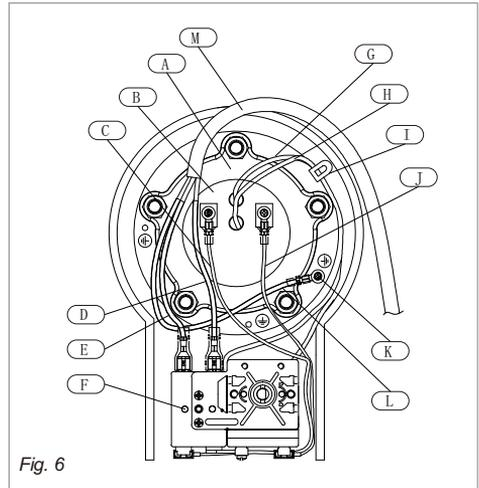

Fig. 6
- Take out the power cord L from the plastic part. (Fig. 6)
- Use a cross screwdriver to unscrew the 3-in-1 cross screw J on the heating element terminals of red wire J and blue wire C. (Fig. 6)
- Remove the wire nail I and press the thermostat capillary G and the thermal cut-out capillary H, and take it out of the blind tube opening.(Fig. 6)
- Loosen the 5 nuts and spring washer on the heating element pressing plate A with the sleeve, and take out the heating element pressing plate A.(Fig. 6)
- Remove heating element B.(Fig. 6)